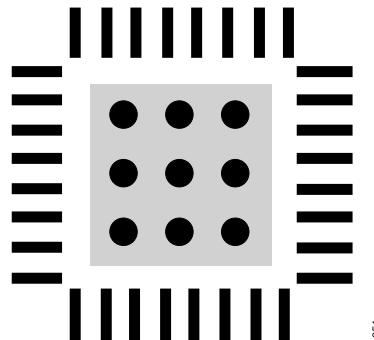

Figure 66. Exposed Pad Layout Example, Top View
- ▶ Vias should be placed to connect all layers of copper, allowing for efficient heat and energy conductivity. For an example, see Figure 66, which has nine vias arranged in a 3 inch \times 3 inch grid in the pad area.